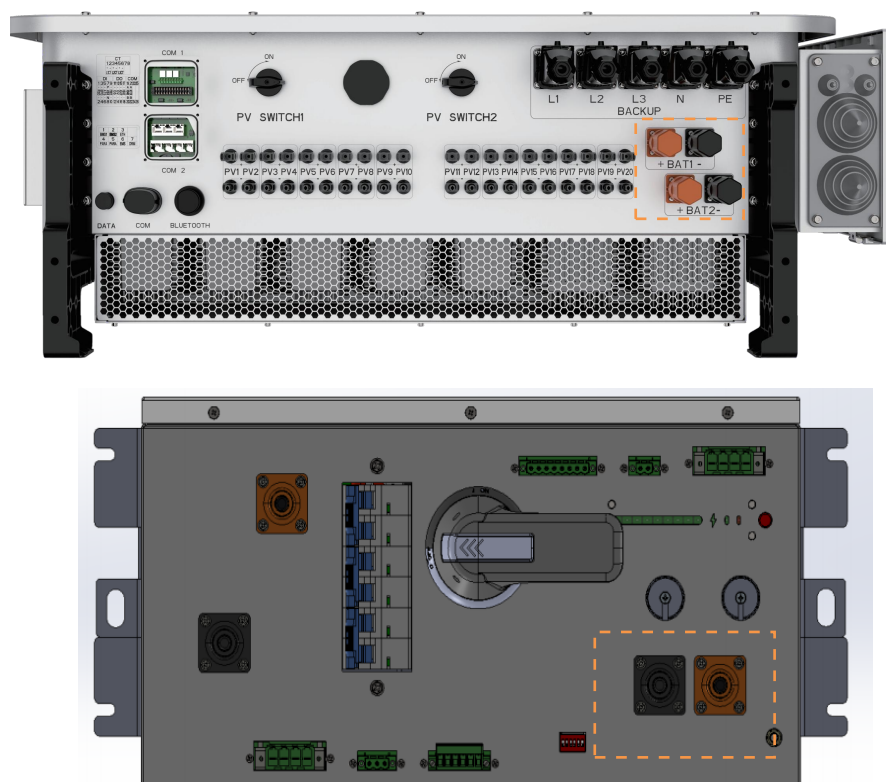

Figure 4.7: Single-Line Diagram
Step 4: Connect the positive output terminal (P+) and negative output terminal (P-) of the HV control box to the positive and negative terminals of the PCS, respectively. Connect its positive terminal to the inverter's battery positive terminal (B+), and its negative terminal to the inverter's battery negative terminal (B-). As shown in figure 4.7.